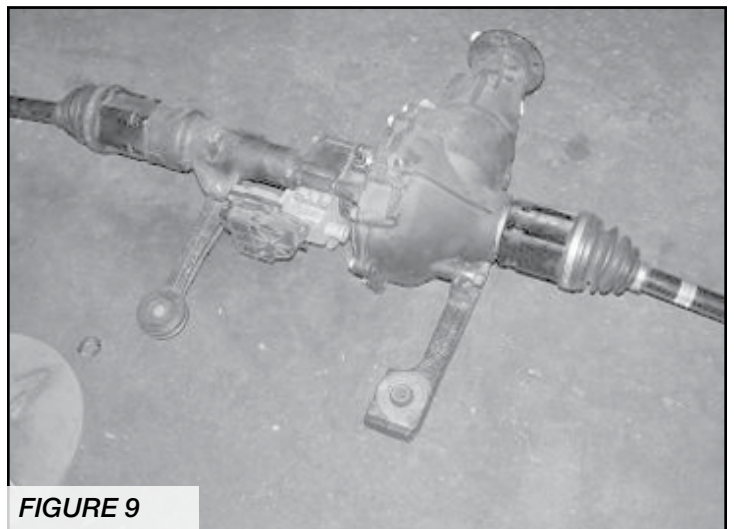

FIGURE 9
13. Support the front differential with a transmission or floor jack. Disconnect all electrical, vacuum lines, and breather lines from the differential. Remove the rear differential nut and save as you will reuse it during assembly. Remove the two front differential bracket bolts from the frame. Discard the bolts, as you will not reuse them. **DO NOT SEPARATE THE C.V. AXLES FROM THE DIFFERENTIAL.** Remove the differential from the truck and set aside. **USE CARE WHEN REMOVING DIFFERENTIAL AS TO NOT DAMAGE THE C.V. Axles and 4WD VACUUM ACTUATOR ASSEMBLY. SEE FIGURE 9**